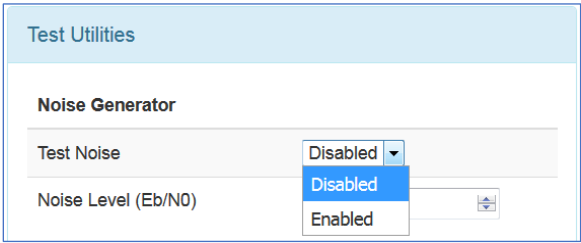

Figure 259: Test Utilities, Noise Generator-Test Noise Drop Down Menu
The Noise Generator selection, shown in Figure 259, optionally sums AWGN (Additive White Gaussian Noise) with the received signal to achieve the desired E_b/N_0 . Since the bit error rate of an ideally modulated signal at any given E_b/N_0 is known and should be readily reproducible, the Noise Generator may be used to verify transmitter or receiver RF integrity. Two parameters are available: Test Noise and Noise Level.
- Test Noise – Enables or disables the AWGN generator, as shown in Figure 259